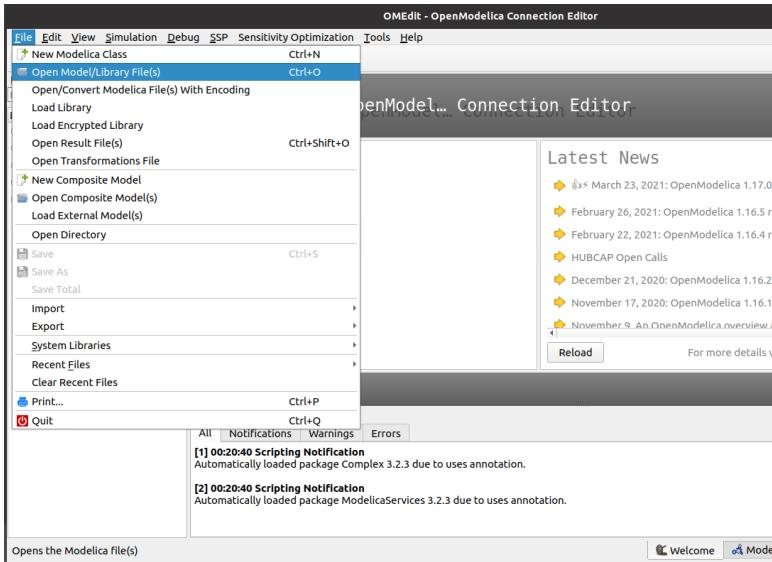

Figure 3.9: Opening a model in OMEdit
the user interface of OMEdit. To open a model in OMEdit, go to the menu bar of OMEdit and click on File -> Open Model/Library File(s), as shown in Fig. 3.9. Then, select the desired model (with ‘.mo’ extension) and click Open. The names of tabs in this book have been mentioned according to OpenModelica 1.17.0. You might observe a bit of difference in these names while working with other versions of OpenModelica.
2. After launching, we have to load OpenModelica-Arduino toolbox. To do so, go to the menu bar of OMEdit. Click on File and then click on the Open Model/Library File(s) option as shown in Fig. 3.9.